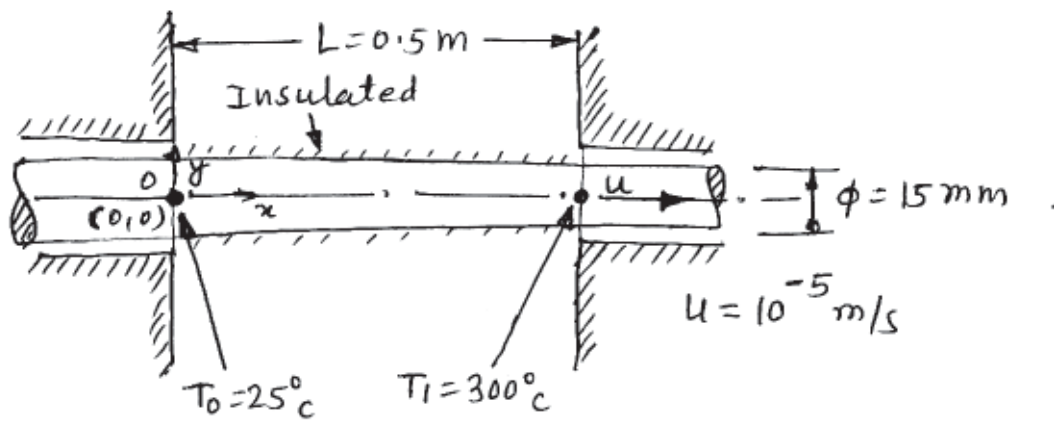

Fig 2
- Q10)** a) Consider a thin rod moving with a velocity 10^{-5} m/s as shown in fig2. The periphery of the rod is perfectly insulated,